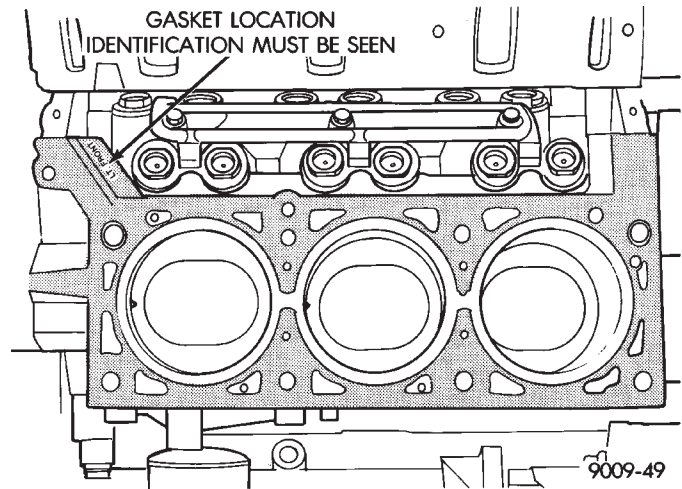

Fig. 8 Head Gasket Installation
(1) Clean all surfaces of cylinder block and cylinder heads.
(2) Install new gaskets on cylinder block (Fig. 8).